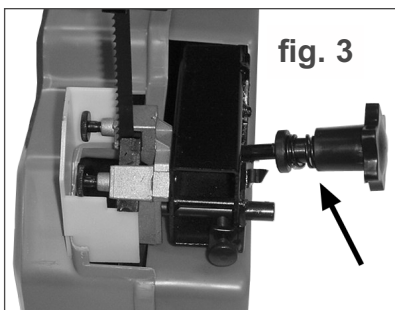

fig. 3
- 3.1.2. Remove the table lock knob, spring and spring bush from the table support rod (fig. 3).